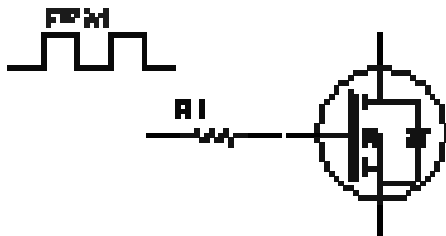

Fig. 6
- 1) When replacing ordinary VDMOS, if you are using a single gate resistor to drive the MOSFET, you can increase the drive resistance, and the need to balance the efficiency, as shown in Figure 6.